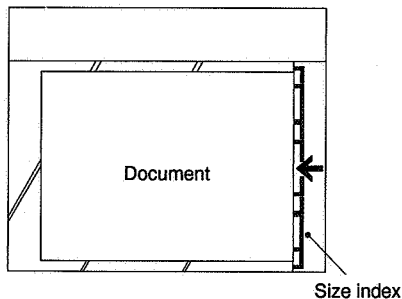

Figure 1-5
- ④ Main Indicator
- ⑤ Power Switch
- Place the document so that its center is at ← on the size index (Figure 1-5); then, close the copyboard cover.